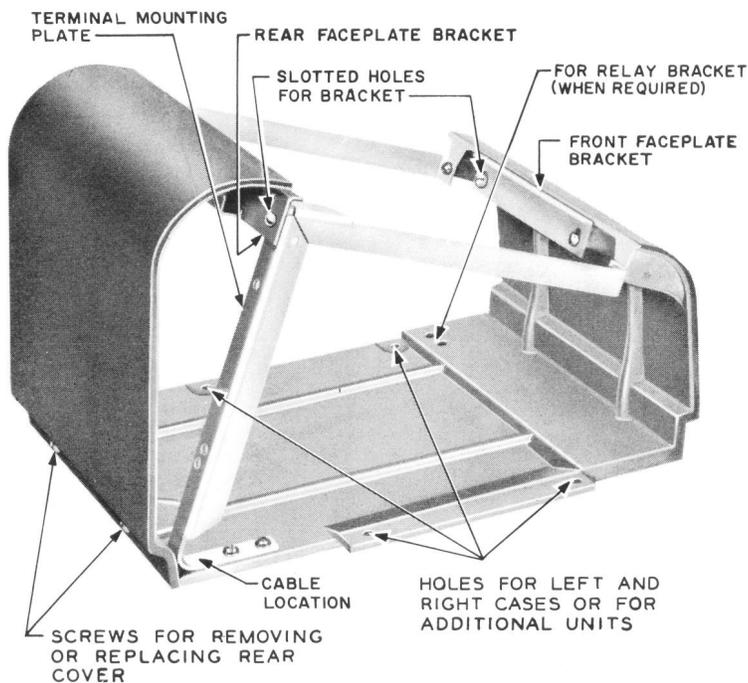

Fig. 10—700A Apparatus Case
3. Fig. 10 shows holes in base for left and right cases or for additional 700A cases side by side.
1. Remove rear cover of 700A apparatus case by removing two screws at base of apparatus case (Fig. 10).
2. Remove rear faceplate bracket (Fig. 10).
6. Remove rear faceplate bracket (Fig. 10).